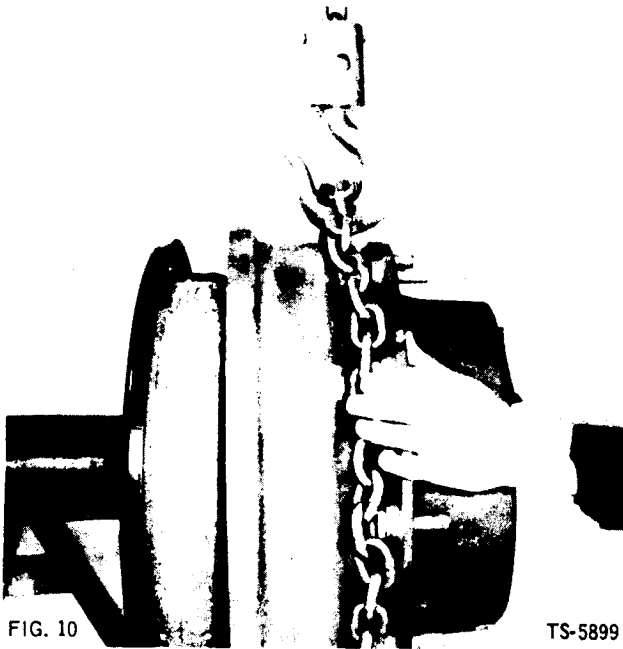

FIG. 10
10. Pull straight out on brake drum and hub assembly to remove it from axle (Fig. 10).